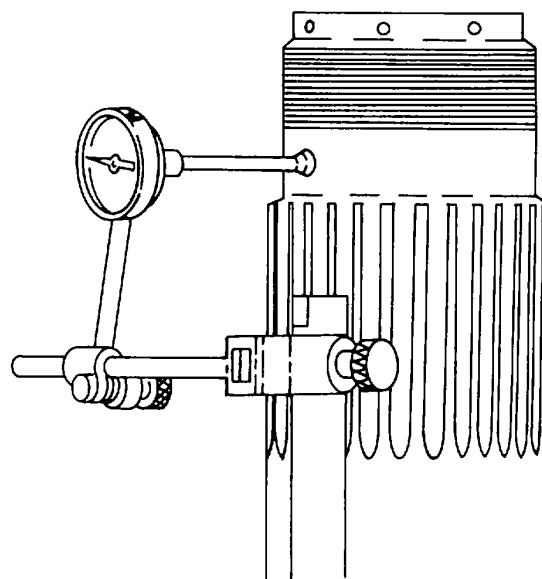

Figure 3-75. Dial Indicator Installed on Propeller Shaft
- (1) Coat metal parts of fillet and radius gauges with a light film of oil to prevent rust.
- (2) Store gauges in separate containers.
- (3) Keep graduations and markings clean and legible.
- (4) Do not drop fillet and radius gauges. Small nicks and scratches will result in inaccurate measurements.
a. Description. The dial indicator consists of a dial with reading needle and a graduated scale. The dial indicator has a measuring range from 0.001 to 0.200 of an inch. The dial is adjustable and has the reading pointer located on the back of the dial. The indicator can be mounted in various positions using a special clamp and tool post holder which is provided in the dial indicator kit. This assembly is shown in figure 3-75.